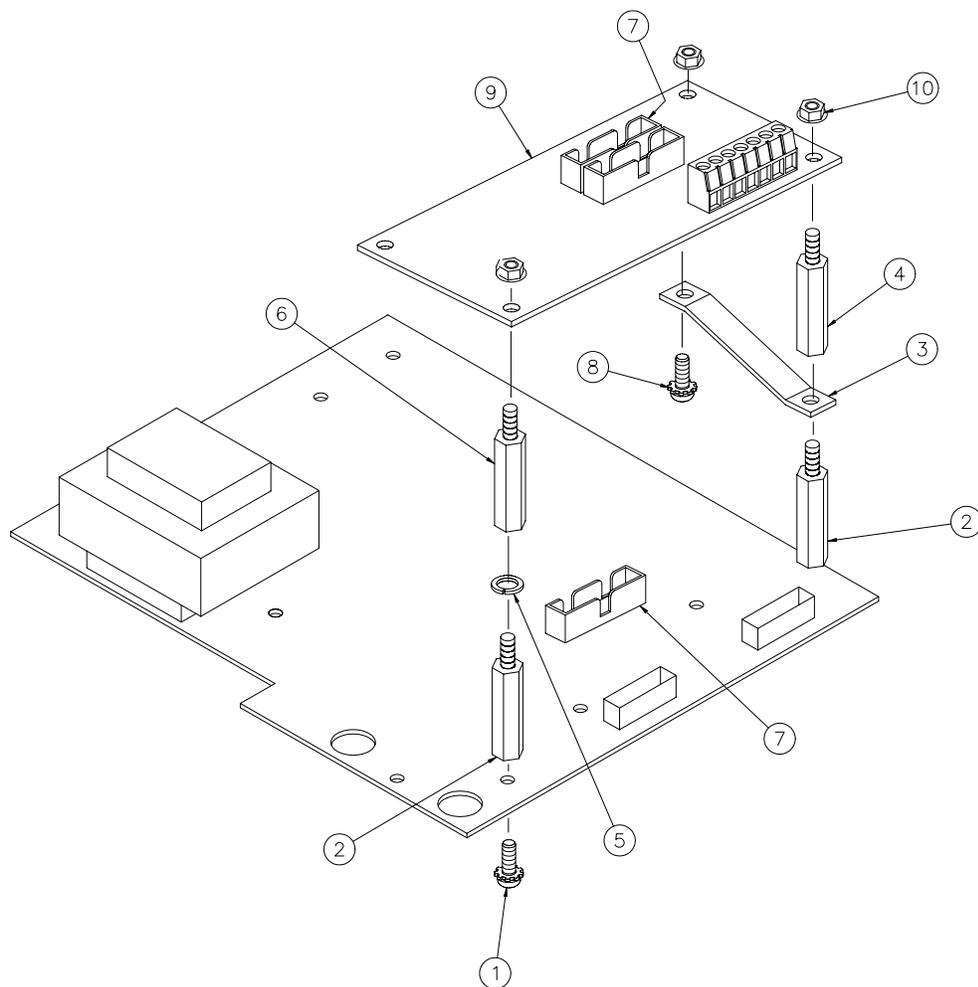

Figure 37, Panel Mount Version Multi-Scale Card Installation
- d. Referring to figure 37, place one of the M4 philips screws through the hole next to the loadcell terminal block J8 from opposite the component side so the threads are protruding through towards the component side of the Main Board. panel cover on the back of the main enclosure and replace the four M4 nuts. Ignore this step if the rear panel cover option is not installed.